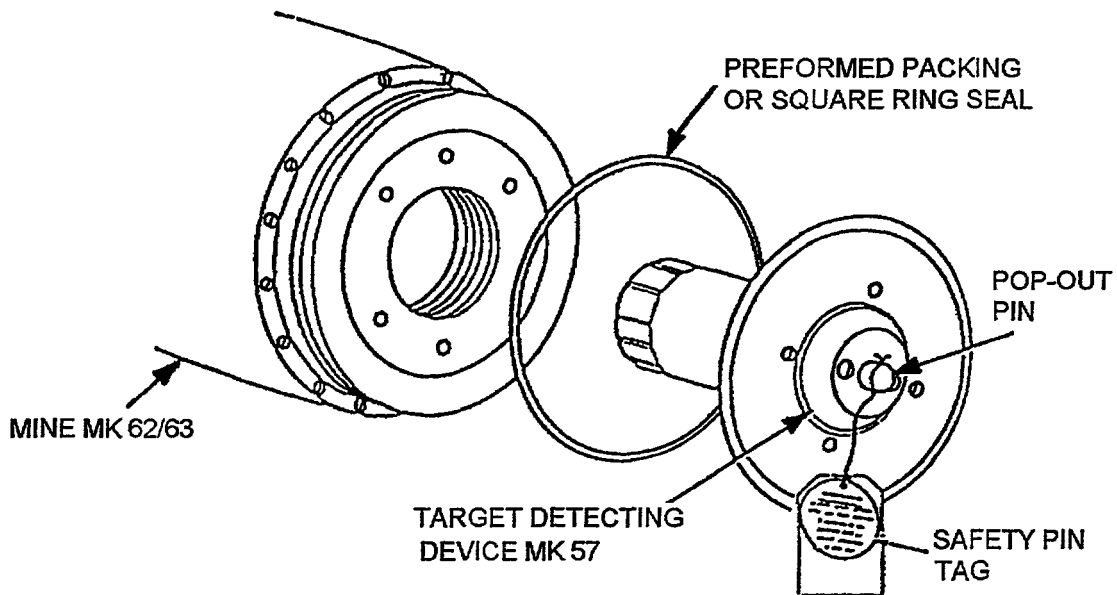
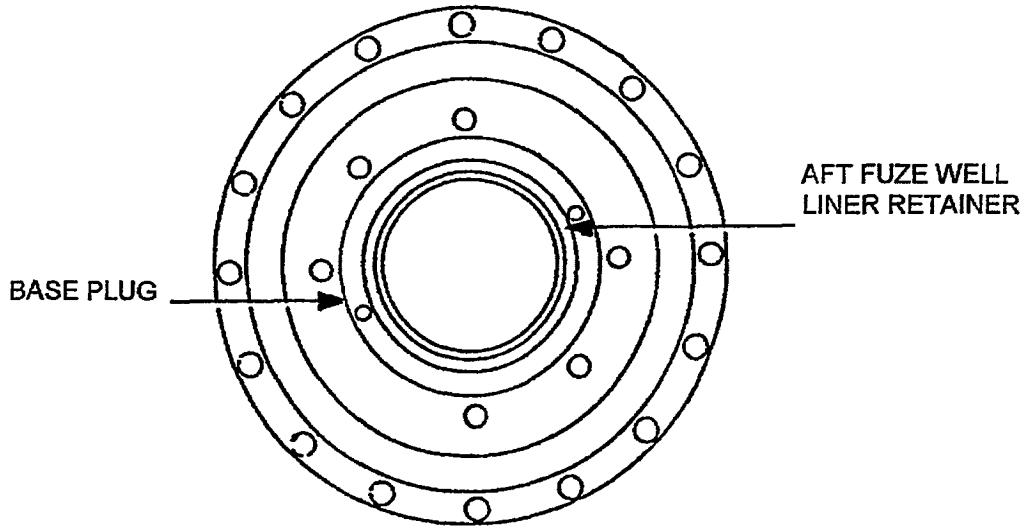

Figure 5-7A. Removal of TDD and Battery
Figure 5-7B. Bomb Mk 83, Aft End
- Turn the TDD flange counterclockwise to remove TDD and battery from aft fuze well (Figure 5-7A). Ensure base plug or fuze well liner retainer (Figure 5-7B) on aft end does not rotate.
- a. Turn the TDD flange counterclockwise to remove TDD and battery from aft fuze well (Figure 5-7A). Ensure base plug and aft fuse liner retainer on aft end of bomb (Figure 5-7B) does not rotate.